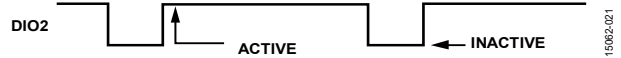

Figure 25. Data Ready, when FNCTIO\_CTRL, Bits[3:0] = 1101 (Default)
The factory default configuration provides users with a data ready (DR) signal on the DIO2 pin, which pulses low when the output data registers are updating (see Figure 25). In this configuration, connect DIO2 to an interrupt service pin on the embedded processor, which triggers data collection, when this signal pulses high. Register FNCTIO\_CTRL, Bits[3:0] (see Table 144) provide some user configuration options for this function.